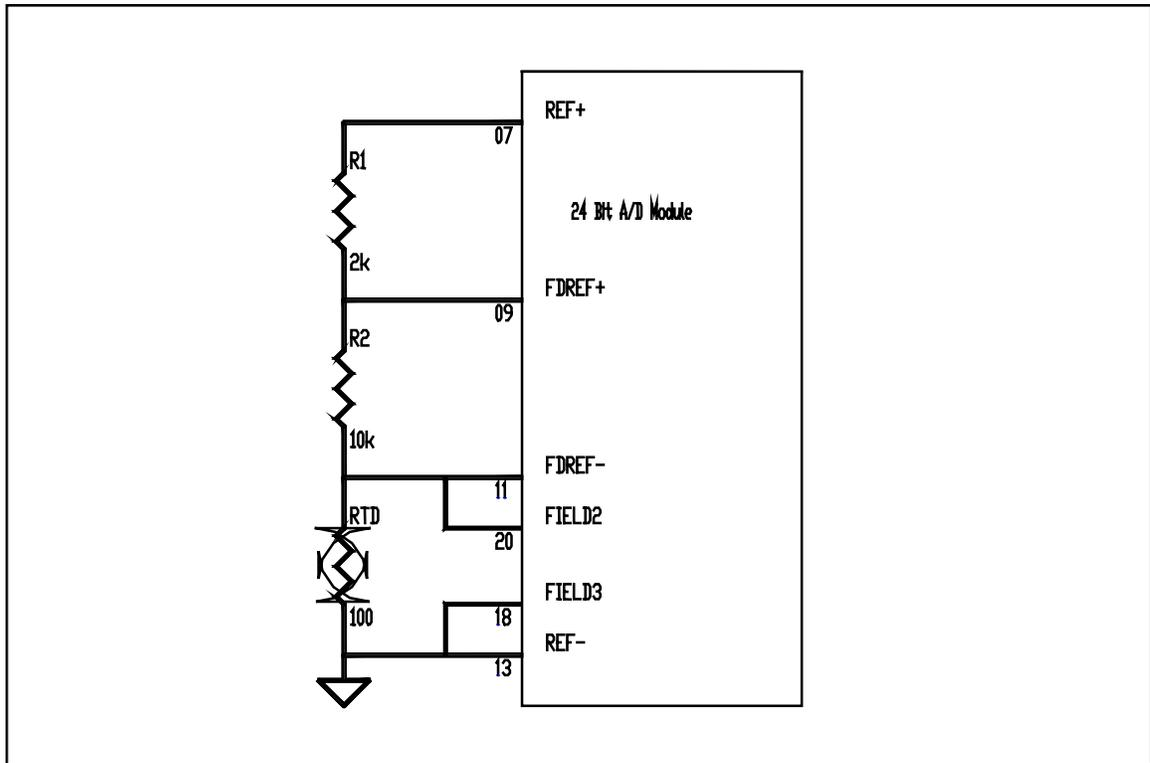

Figure 1: Typical Application of the 3.0 V Option
3.0 V option is useful for powering external sensors and transducers and provides up to 10 mA of current. Figure 1 shows a typical application of 3.0 V option with an RTD.